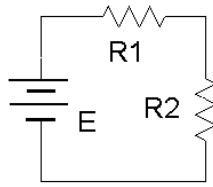

Figure 2
6. Build the circuit of figure 2 using $E=10\text{ V}$, $R1=10\text{ k}\Omega$ and $R2=33\text{ k}\Omega$. Connect a probe from the channel one input to the power supply (red or tip to the positive terminal, black clip to ground). Connect a second probe from channel two to $R2$ (again, red or tip to the high side of the resistor and the black clip to ground).